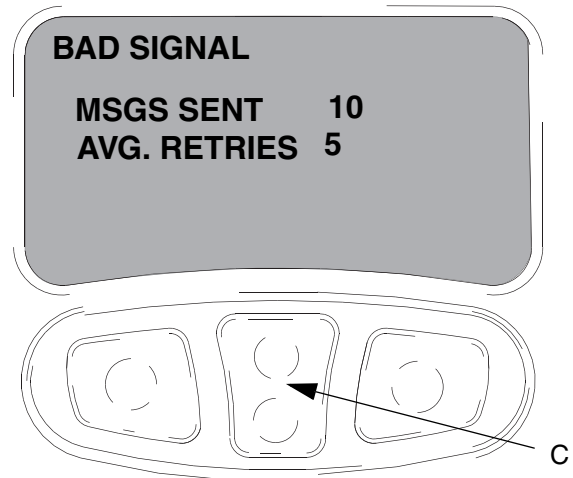

FIG. 7
Optional information is displayed by pressing the up center button (C) **during** the RF signal testing process. Pressing the down center button (C) **during** the RF signal testing process hides this information. See FIG. 7.
For example, FIG. 7 illustrates an RF interval test where a total of 50 resend messages were bad out of a possible 100 (10 test interval messages x 10 retries = 100)